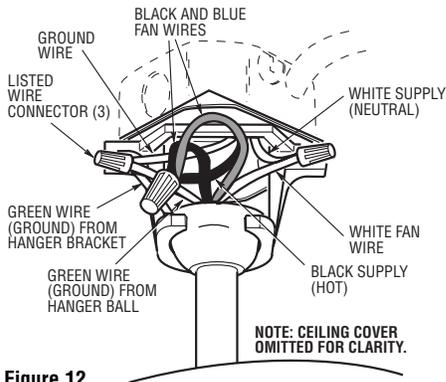

Figure 12
- 1. Connect the green grounding lead from the hanger ball and the green grounding lead from the hanger bracket to the grounding conductor of supply (this may be a bare wire or wire with green colored insulation). Securely connect wires with wire connectors supplied. (Figure 12.)
- 2. Securely connect the fan motor white wire to the supply white (neutral) wire using wire connector supplied (Figure 12). Securely connect the fan motor black wire and blue wire to the supply black (hot) wire using wire connector supplied (Figure 12). After connections have been made, turn leads upward and carefully push leads into the outlet box, with the white and green leads on one side of the outlet box and the black and blue leads on the other side of the outlet box.
- 3. Screw the two 1-1/4" threaded studs (supplied) into the tapped holes in the hanger bracket (Figure 12).